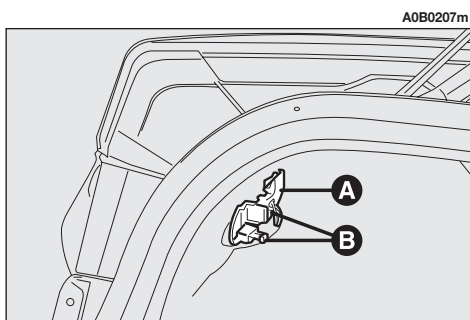

fig. 44
- Withdraw the bulb holder unit (**A-fig. 44**) releasing the retainer tabs (**B-fig. 44**).
– Refit the bulb holder unit fastening it correctly in place with the retainer tabs (**B-fig. 44**).